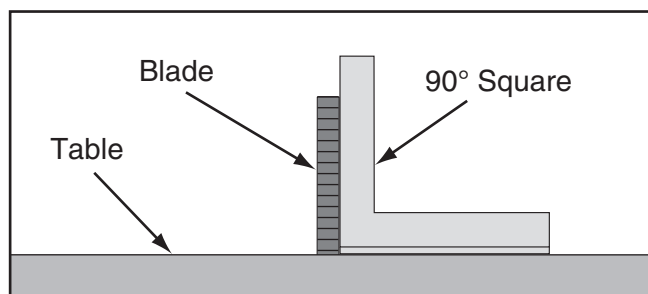

Figure 105. Checking blade at 90°.
3. Place a 90° square against the table and blade so it contacts the blade evenly from bottom to top, as shown in **Figure 105**. Make sure a blade tooth does not obstruct the placement of the square.